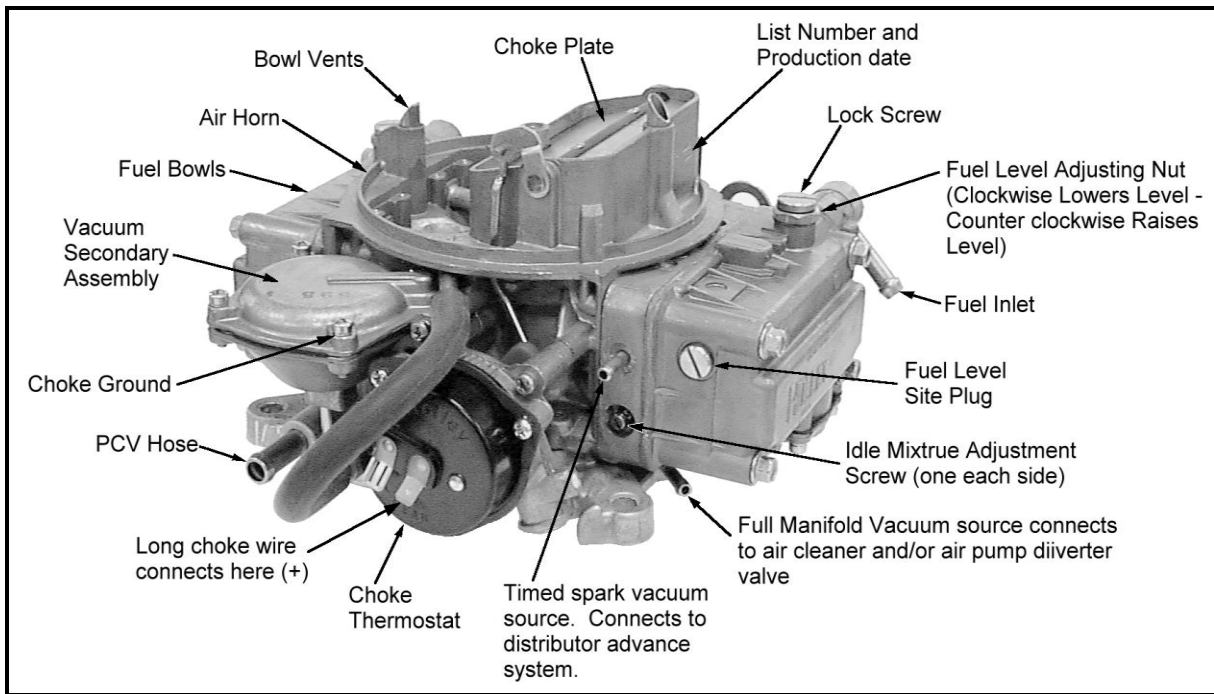

Figure 4
6. Reconnect all vacuum lines and electronic wires that were labeled in the removal of the old carburetor. Use Figure 4 as a guide to locate connections. The full manifold vacuum source in the front of the throttle body provides vacuum for proper operation of the air cleaner, the air pump diverter valve (if the vehicle is so equipped) and/or the temperature sensing valve. The timed spark fitting in the choke side of the primary metering block provides vacuum for operation of the distributor vacuum advance. Connect the hose to the distributor, spark delay valve and/or temperature sensing valve. If vacuum for more than one component is needed plastic "T's" (available at most automotive part stores) maybe used to complete the installation.
7. Connect the PCV hose to the PCV fitting in the carburetor. See Figure 4. If the intake manifold has no provision for power brakes, the power brakes hose can be "Tee'd" to this fitting. Connect solenoid wire to the original source wire.